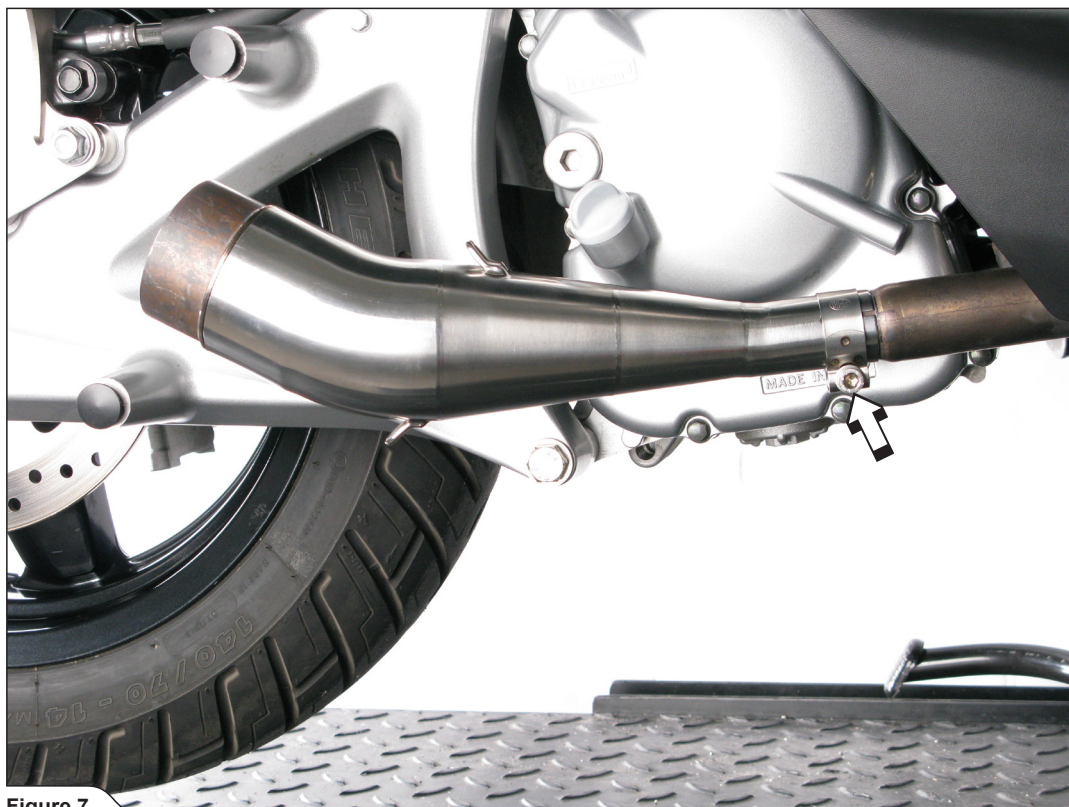

Figure 7
4. Correctly position and slide the Akrapovič link pipe onto the stock header and hand tighten the metal clamp (Figure 7).